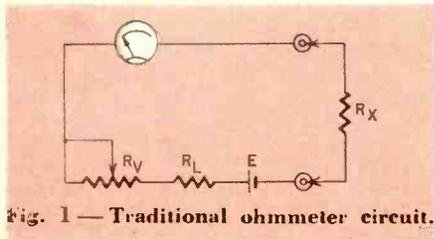

Fig. 1 — Traditional ohmmeter circuit.
Traditionally, an ohmmeter's circuit is some version of Fig. 1. This is based
▶ A fresh D cell delivers as much as 1.65 volts and can be used until its voltage has dropped below 1.35. So, if the circuit in Fig. 1 uses a single cell and a 1-ma meter, R must be adjustable between 1,350 and 1,650 ohms. Now, if we measure an unknown resistance and the meter indicates exactly half-scale
Since all the resistance-scale graduations are unalterably related to R, the first step is to eliminate R_V from Fig. 1 so R can be made a fixed and precise value. As this is the value indicated at the half-scale point, we will want it to be in round numbers. With a fixed value for R, variations in battery voltage (E) must produce proportional variations in I—for example, $2E/R = 2I$. Since we have eliminated R_V the "ohms zero" control must vary the current sensitivity of the meter without, however, altering its resistance. The ideal